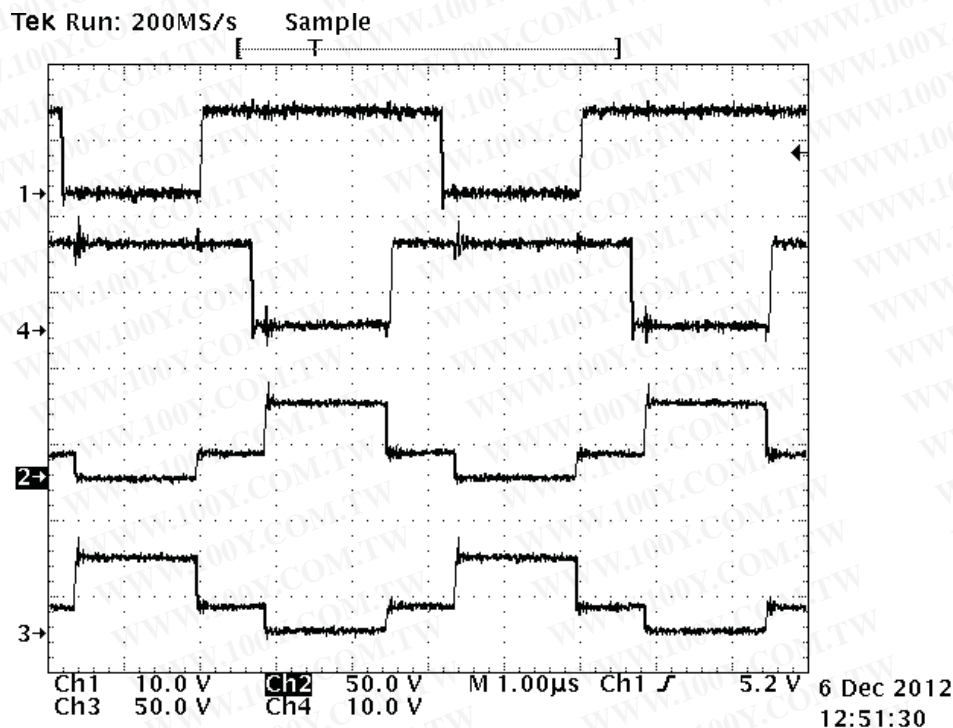

Figure 32. Normal Operation Switching Waveforms
- The converter is in normal operation to regulate the output voltage at 12V nominally. As shown in Figure 32, Ch1 = TP13, Ch2 = TP25, Ch3 = TP23, and Ch4 = TP12, all referenced to the primary-side ground.